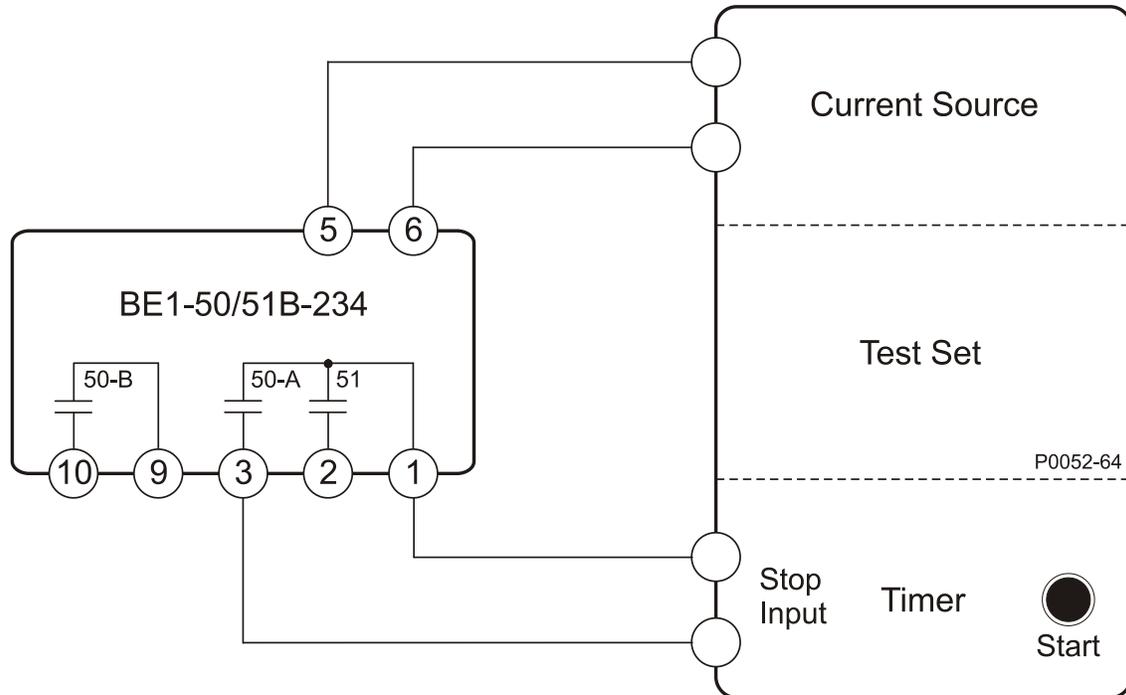

Figure 5-6. 50-A Pickup Test Setup
- a. Connect the test setup shown in Figure 5-6.